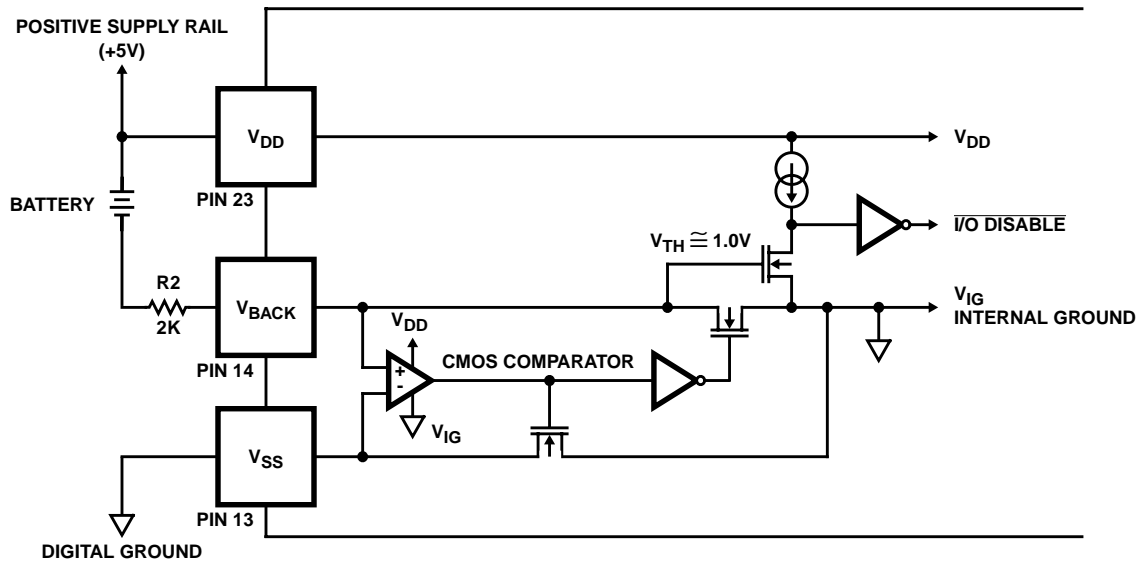

FIGURE 6. SIMPLIFIED ICM7170 BATTERY BACKUP CIRCUIT
The ICM7170 contains an on-chip power down detector that eliminates the need for external components to support the battery-backup switchover function, as shown in Figure 6. Whenever the voltage from the V_{SS} pin to the V_{BACKUP} pin is less than approximately 1.0V (the V_{TH} of the N-channel MOSFET), the data bus I/O buffers in the ICM7170 are automatically disabled and the chip cannot be read or written to. This prevents random data from the microprocessor being written to the clock registers as the power supply is going down.
4. EXTERNAL BATTERY BACKUP - The ICM7170 may be placed on the same power supply as battery-backed up RAM by keeping the ICM7170 in its operational state and having an external circuit switch between system and backup power for the ICM7170 and the RAM. In this case V_{BACKUP} should be pulled up to V_{DD} through a 2K resistor. Although the ICM7170 is always "on" in this configuration, its current consumption will typically be less than a microamp greater than that of standby operation at the same supply voltage (See Note 9). Proper consideration must be given to disabling the ICM7170s and the RAMs I/O before system power is removed. This is important because many microprocessors can generate spurious write signals when their supply falls below their specified operating voltage limits. NANDing CS (or WR) with a POWERGOOD signal will create a \overline{CS} (or \overline{WR}) that is only valid when system power is within specifications. The POWERGOOD signal should be generated by an accurate supply monitor such as the ICL7665 under/over voltage detector. An alternate method of disabling the ICM7170's I/O is to pull V_{BACKUP} down to under a volt above V_{SS} ($V_{SS} < V_{BACKUP} < 1.0V$). This will cause the ICM7170 to internally disable all I/O. Do not allow V_{BACKUP} to equal V_{SS} , since this could cause oscillation of the battery backup comparator (See Figure 6). $V_{BACKUP} = V_{SS} + 0.5V$ will disable the I/O and provide enough overdrive for the comparator.